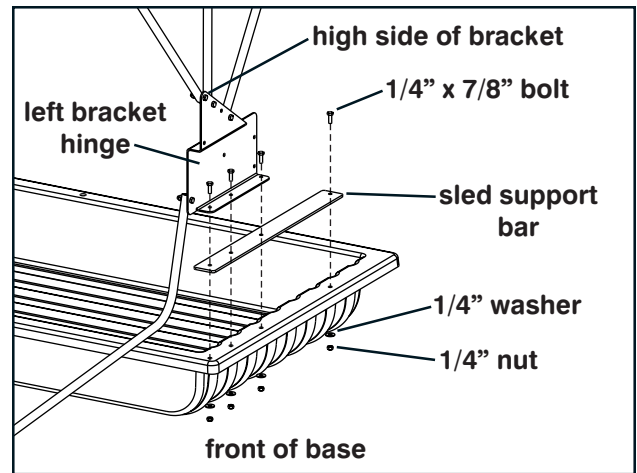

Figure 1
1. Attach sled support bar (69677) and left hinge assembly to the upper lip of sled using (4) 1/4" x 7/8" bolts, washers, & nuts. Tighten. See Figure 1. Repeat for other side.